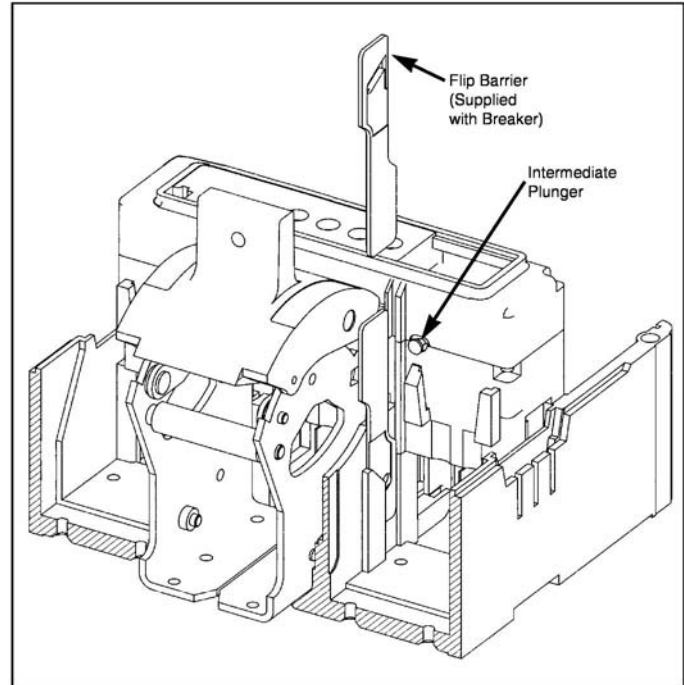

Figure 2-2 Interphase Barrier Replacement and Intermediate Plunger Positioning.
- 2-6. Remove interphase barrier between center pole and pole in which accessory is to be mounted and flip (Figure 2-2).